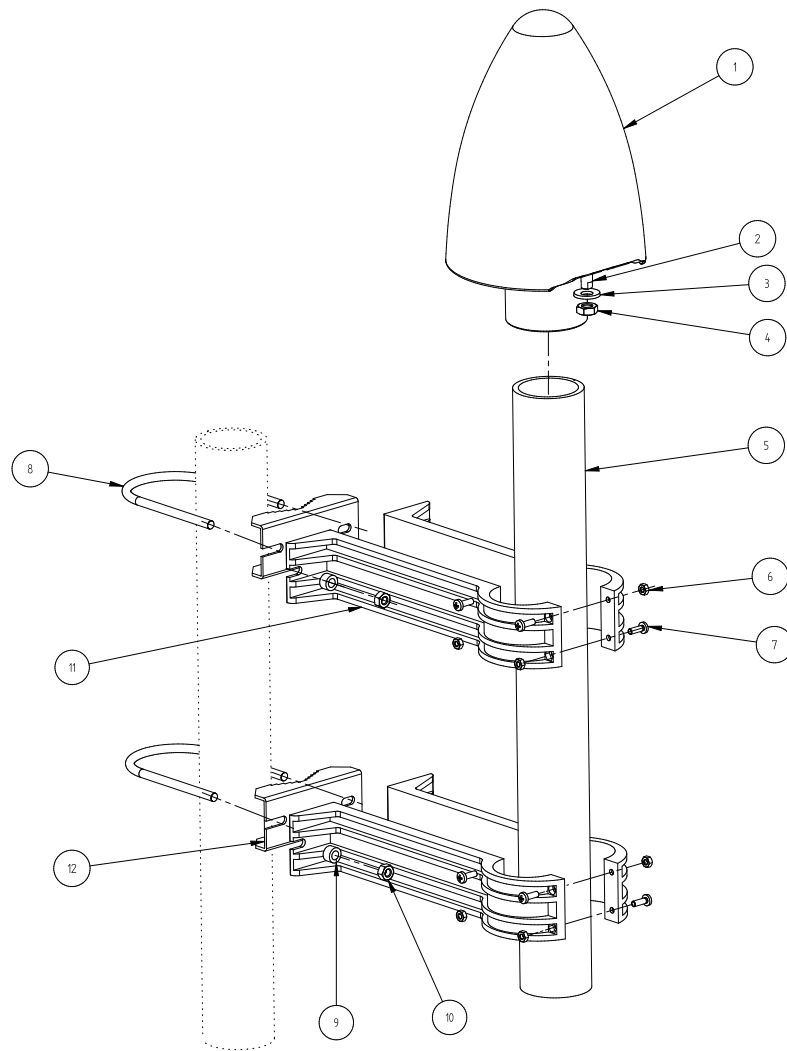

Figure 8.4: Mounting a Meinberg GNSS antenna onto a mast
■ Fig. 8.4 illustrates the installation of a Meinberg GNSS antenna on a mast.
1. Insert the antenna tube (Item 5 in ■ Fig. 8.4) into the designated rounded recesses of the two pairs of antenna tube clamp halves (Item 11). Secure the tube inside each of the two clamps using four M4x12 Phillips screws (Item 7) and corresponding M4 hex nuts (Item 6). To ensure that the tube (Item 5) is as secure as possible, the top and bottom M4x12 screws (Item 7) of each tube clamp should be inserted from opposing directions as shown in ■ Fig. 8.4.